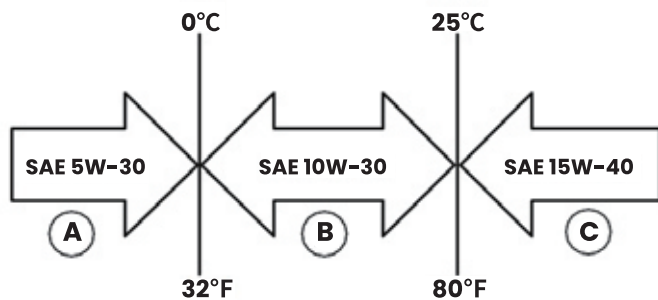

Figure 8 : Recommended Oil
1. Only use the engine oil specified in Figure 8.